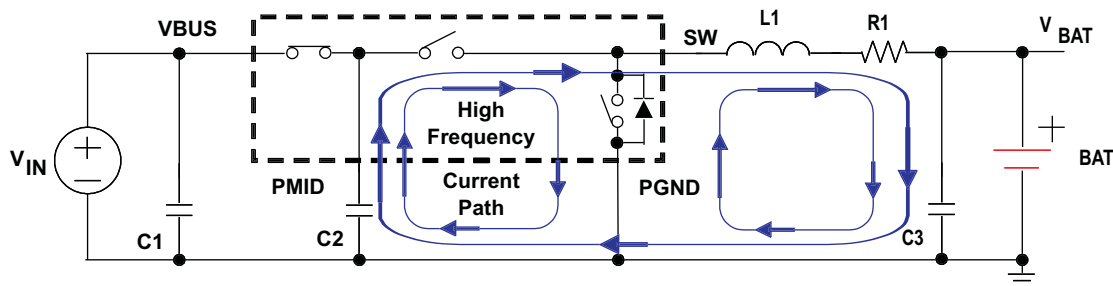
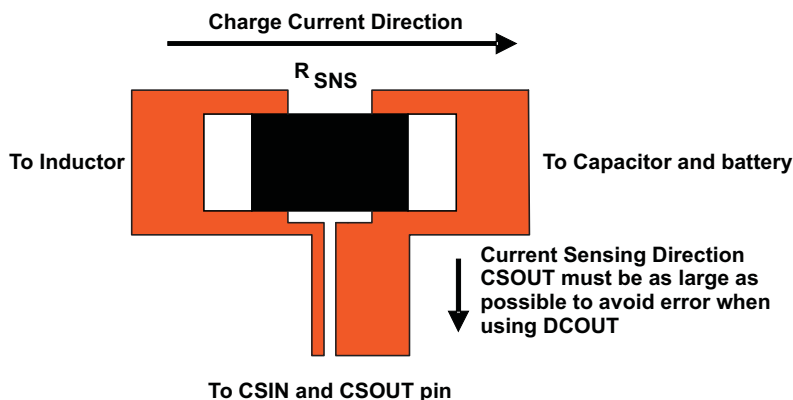

Figure 39. High Frequency Current Path
Figure 40. Sensing Resistor PCB Layout
- To obtain optimal performance, the power input capacitors, connected from input to PGND, should be placed as close as possible to the bq24180. The output inductor should be placed close to the IC and the output capacitor connected between the inductor and PGND of the IC. The intent is to minimize the current path loop area from the SW pin through the LC filter and back to the PGND pin. To prevent high frequency oscillation problems, proper layout to minimize high frequency current path loop is critical (see Figure 39). The sense resistor should be adjacent to the junction of the inductor and output capacitor. Route the sense leads connected across the RSNS(R1) back to the IC, close to each other (minimize loop area) or on top of each other on adjacent layers (do not route the sense leads through a high-current path, see Figure 40).